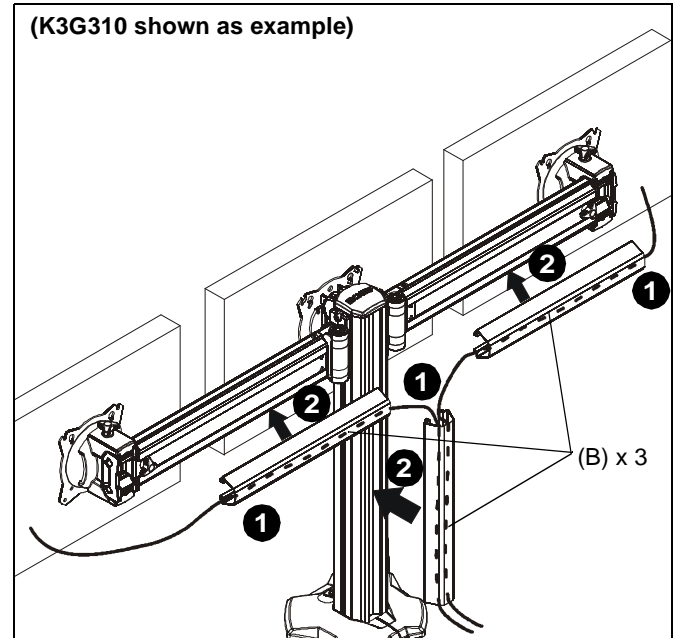
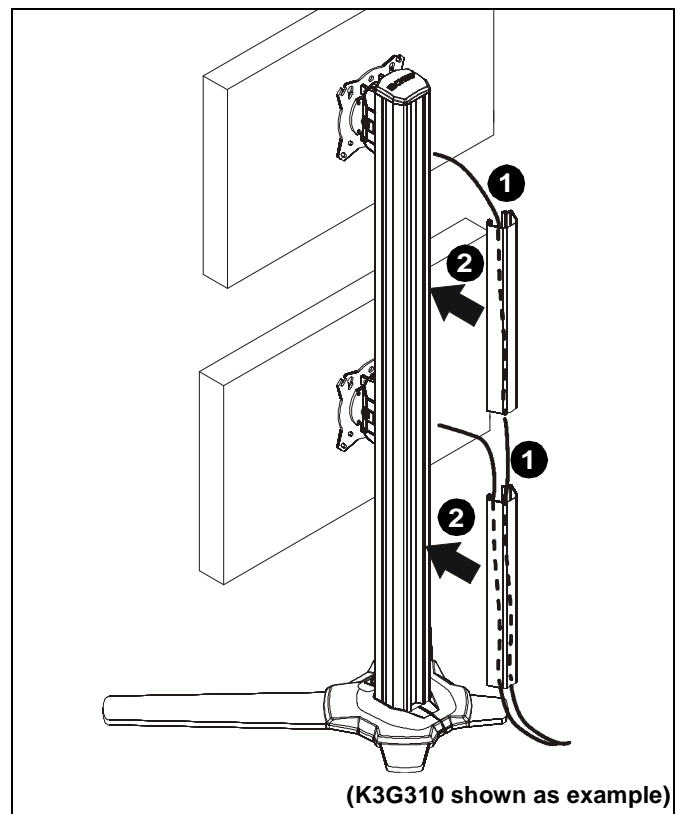

Figure 26
Figure 27
1. Route cables from display through cable management covers (B) as desired. (See Figure 26) and (See Figure 27)
2. Install cable management covers (B) onto array (A). (See Figure 26) and (See Figure 27)